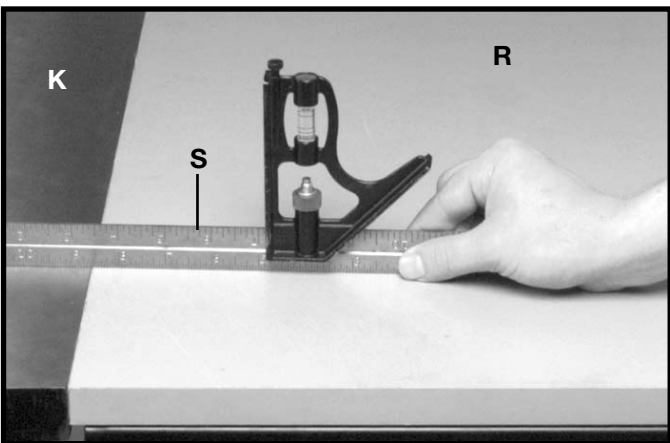
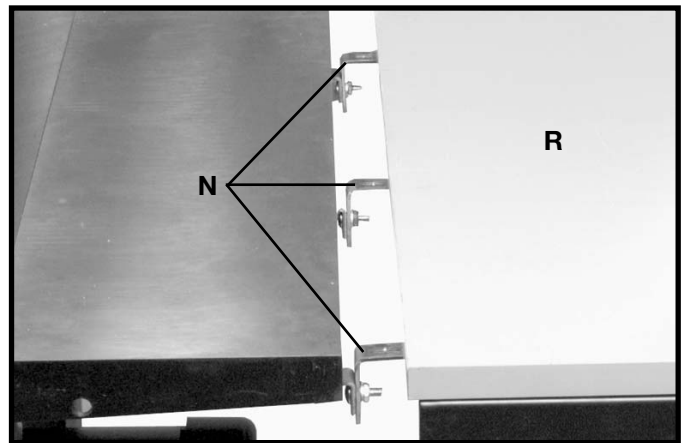
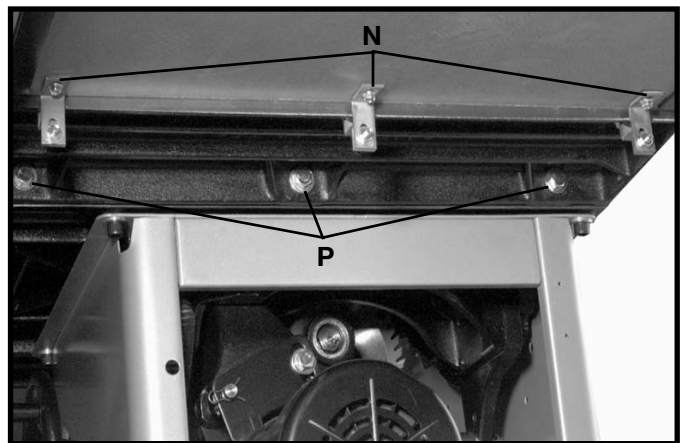

Fig. 69
Fig. 68
Fig. 70
12. Position table board (R) Fig. 68, on top of angle brackets (N) as shown.
13. While holding table board (R) Fig. 69, tightly against extension wing (K), fasten table (R) to brackets (N) Fig. 68, from underneath the table using three #8 x 7/8 inch-long wood screws (P). **CAUTION: DO NOT OVER-TIGHTEN TABLE MOUNTING SCREWS.** Over-tightening screws in particle board may cause them to strip.
14. Using a straight edge (S) Fig. 69, make certain the Unifence table surface is level with the saw table by adjusting two leveling screws located on the bottom of table legs and adjusting angle brackets (N) Fig. 70, use a level, side to side and front to back to make sure the table is level. Then tighten three hex nuts (P). **IMPORTANT:** Front edge of Unifence table must be flush with or slightly behind front edge of saw table.